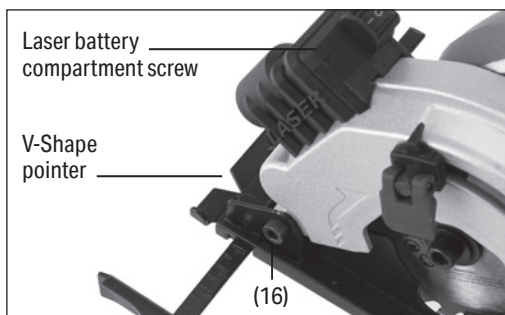

Fig. 10
7.5 Line Following (Fig.10)
- A V-shaped pointer is located at the front of the base plate (16) to indicate where a line can be followed when cutting.